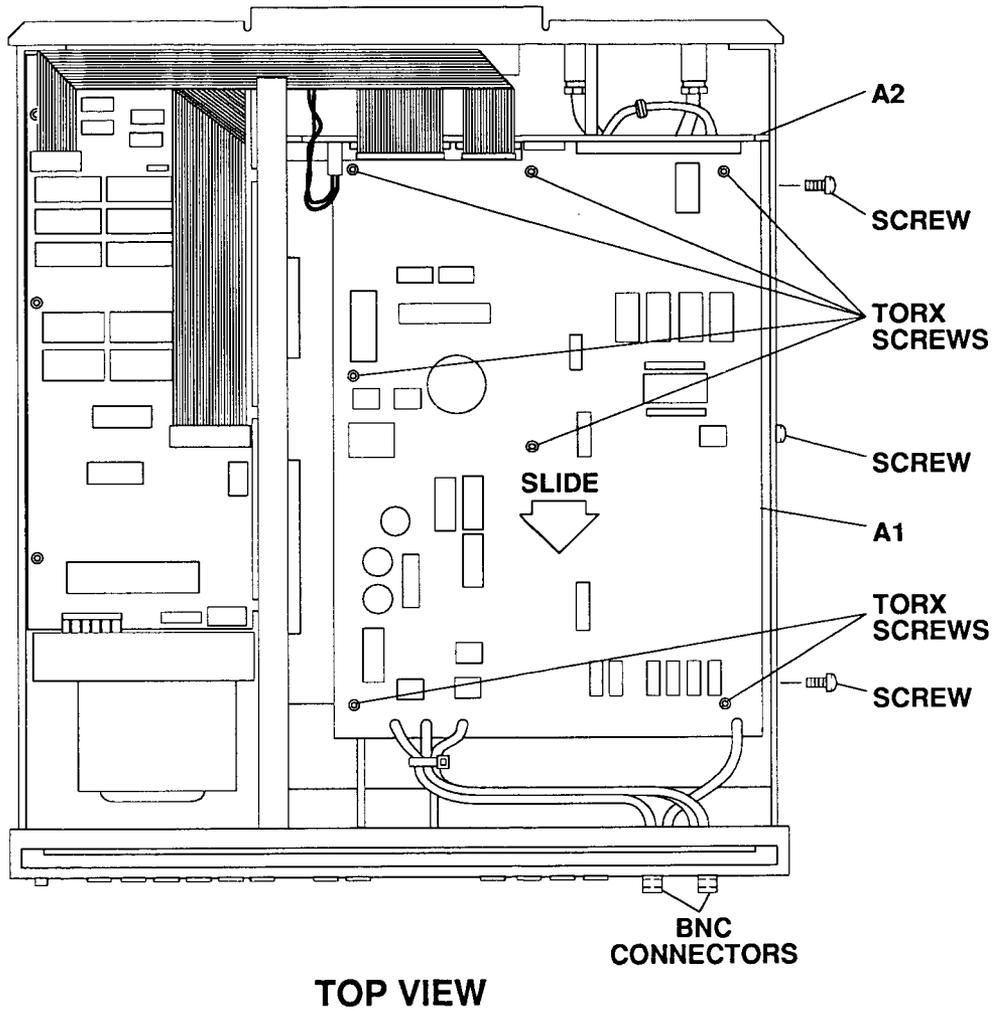

Figure 3-4. Remove and Replace A1/A11 Inguard Source PCA
2. Locate the three screws on the side of the instrument that retain the metal deck in place. Remove the outer two screws and loosen the center screw (see Figure 3-4).
2. Disengage the connectors on the A1 Inguard Source PCA, and if installed the optional A3 High Voltage Amplifier PCA (refer to Figure 3-4 steps 2 and 3).
2. Disengage the connectors on the A1 Inguard Source PCA/A3 High Voltage Amplifier PCA (refer to Figure 3-4 steps 2 and 3).
2. Remove A1/A11 Inguard Source PCA(s) (refer to Figure 3-4).